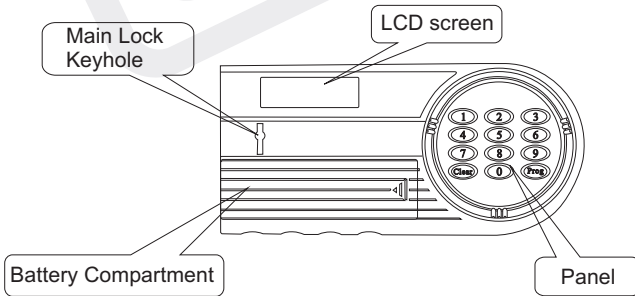

Figure 4 Panel
- Insert the override key into the main lock keyhole (Figure 4, P.4), turn it clockwise for $45^{\circ} \sim 50^{\circ}$, then return it counterclockwise to its reference position and remove it. Now insert the main key into the main lock keyhole, turn it clockwise to the end, then turn the knob clockwise to open the door.